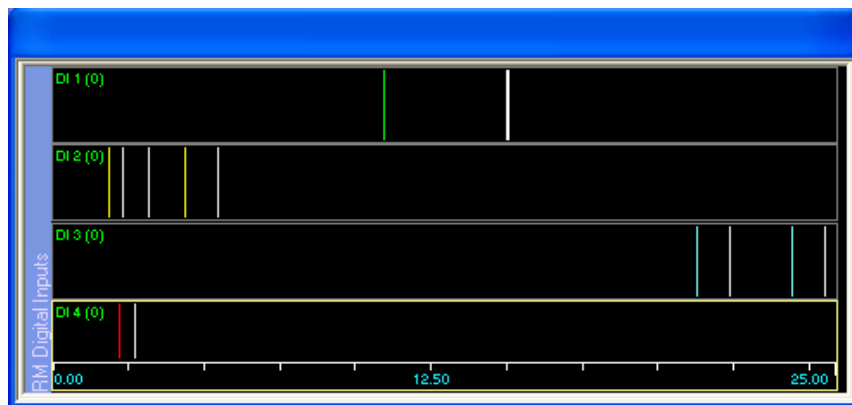

Figure 24: Single-Bit Digital Input Display
1. From the **Windows List** button , select a digital input Workspace window. The window appears (*Figure 24*), with each input bit in the window appearing in its own graph.